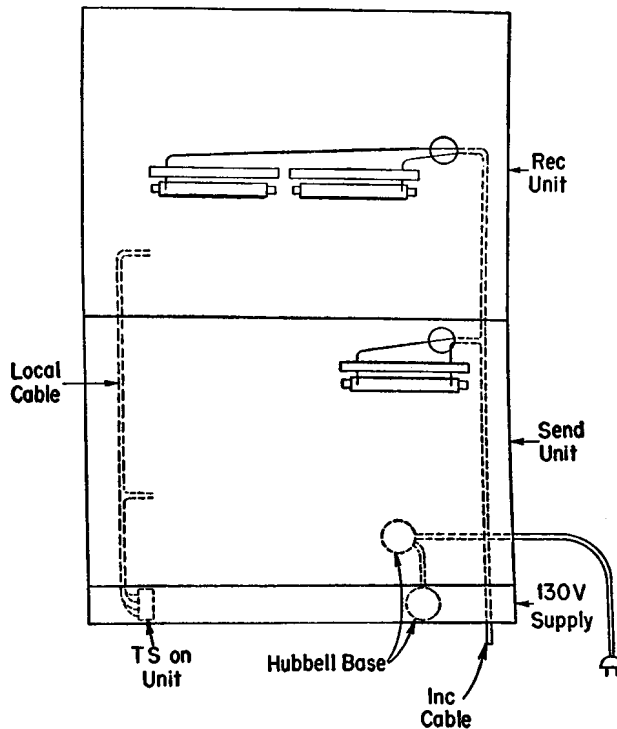

Fig. 1 — Cabling of Sending and Receiving Units
3.01 Combine and sew or tape the leads provided on the sending and receiving units for connection to the 130-volt power unit and run form vertically to terminal strip of power unit as shown in Fig. 1. Connections to terminal strip should be made in accordance with SD-69168-01.
3.02 The wiring to the screw-type terminal strips mounted on the front of the sending and receiving units shall be run through the insulated entrance hole located above and to the right of the terminal strip and fanned to the proper fanning strip holes, leaving sufficient slack as shown in Fig. 1.